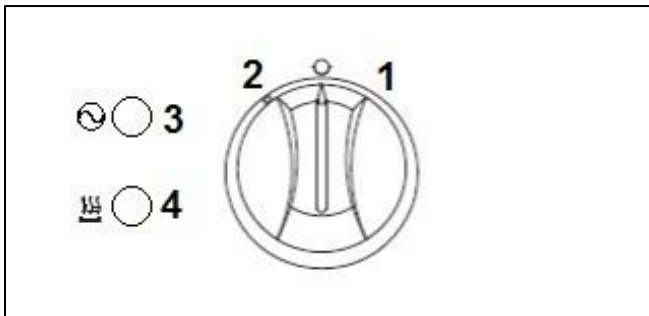

Figure 2 – E3840/E3840F Control Panel
2.3.1 E3840/E3840F Fryer Control Panel (See Figure 2)
Fryer has a start button. Once operator has established there is sufficient oil in the pan, pushing will engage the controller (See fig 2 or 3).